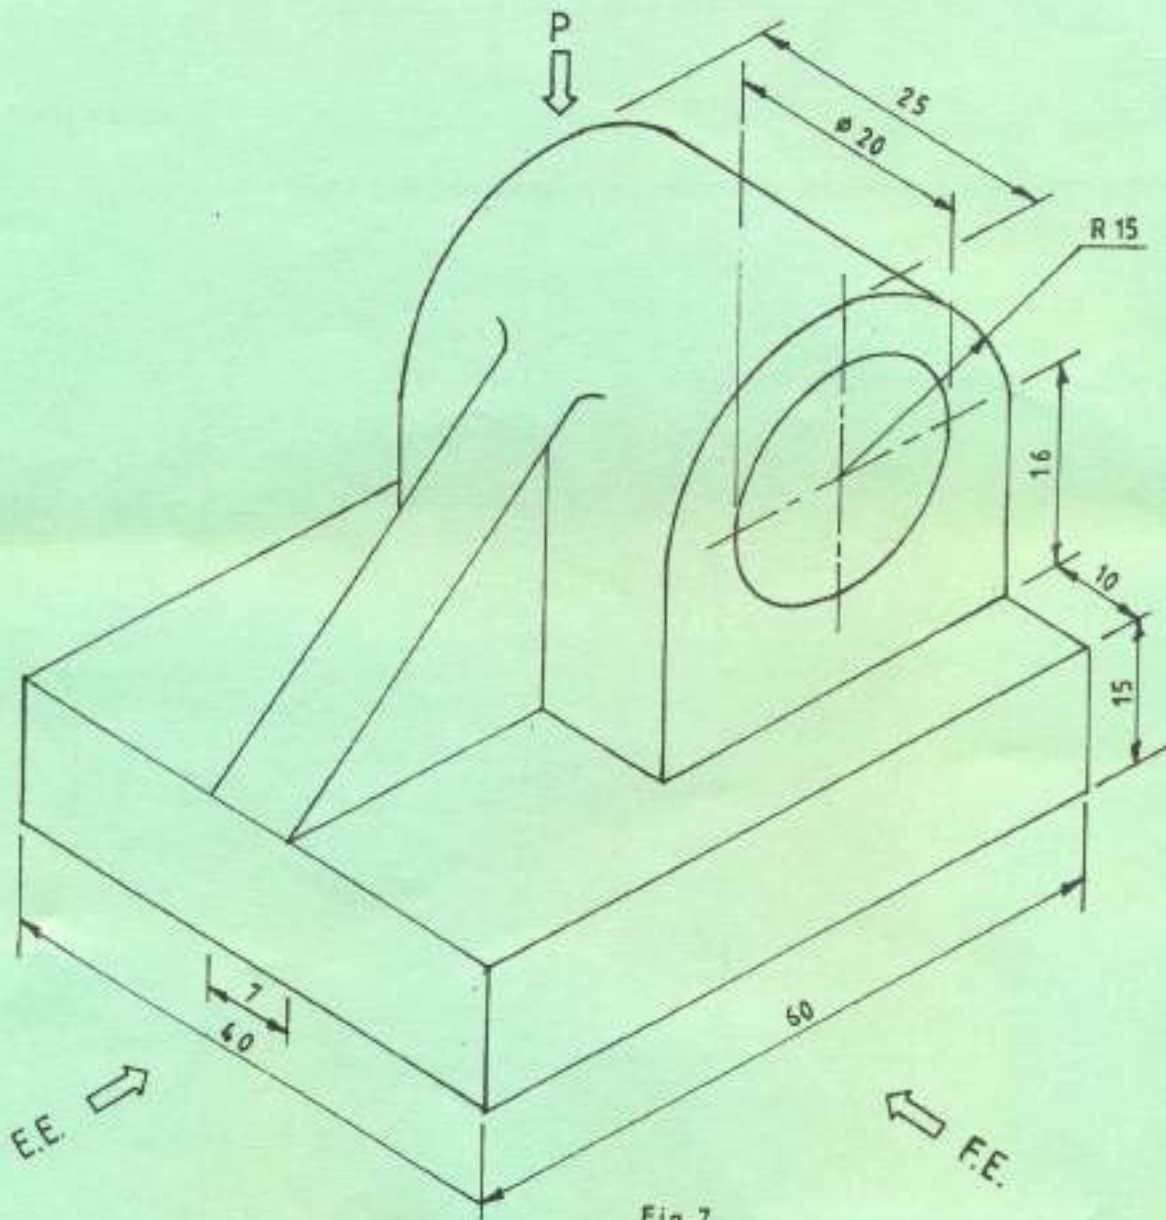

Fig.7
6. Figure 7 shows a machine bearing drawn in isometric. Draw the following using first angle projection twice full scale:-